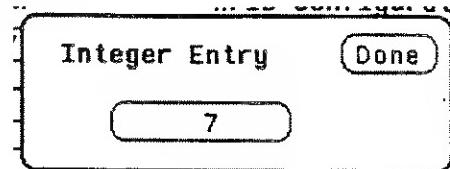

Figure 5-15. Integer Entry Pop-Up Menu
1. Select the External I/O Port Configuration menu and place the cursor in the field directly to the right of **HP-IB Address**. Press **SELECT** and an Integer Entry pop-up appears as shown in figure 5-15.